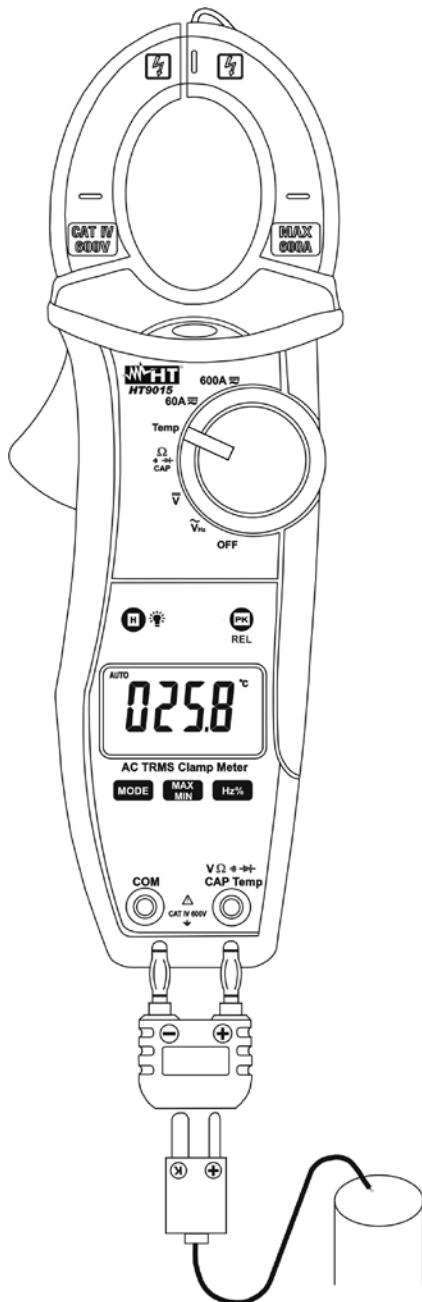

Fig. 8: Taking Temperature measurement
3. Insert the type K bead probe in **VΩ·Hz%Temp** and **COM** inputs terminals using the standard adapter and observing the correct polarity (see Fig. 8). The temperature value is shown at display